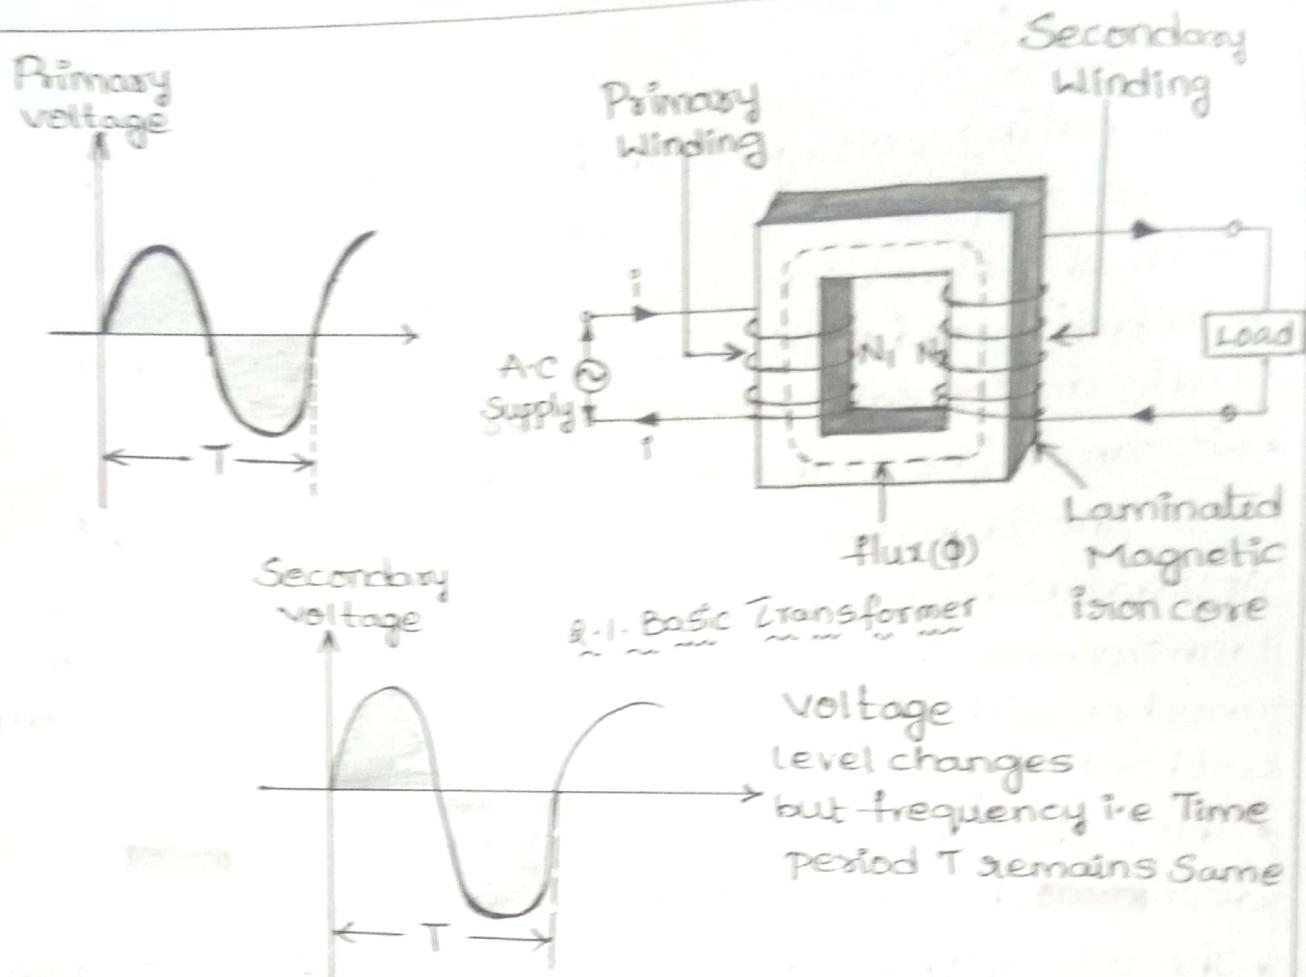

Fig. 3.2.1 Basic transformers
- In its elementary form, it consists of two inductive coils which are electrically separated but linked through a common magnetic circuit. The two coils have high mutual inductance. The basic transformer is shown in the Fig. 3.2.1.
- One of the two coils is connected to a source of alternating voltage. This coil in which electrical energy is fed with the help of source is called primary winding (P).
- The other winding is connected to load. The electrical energy transformed to this winding is connected to the load. This winding is called secondary winding (S).
- When primary winding is excited by an alternating voltage, it circulates an alternating current. This current produces an alternating flux (ϕ) which completes its path through common magnetic core as shown dotted in the Fig. 3.2.1. Thus an alternating flux links with the Secondary winding.